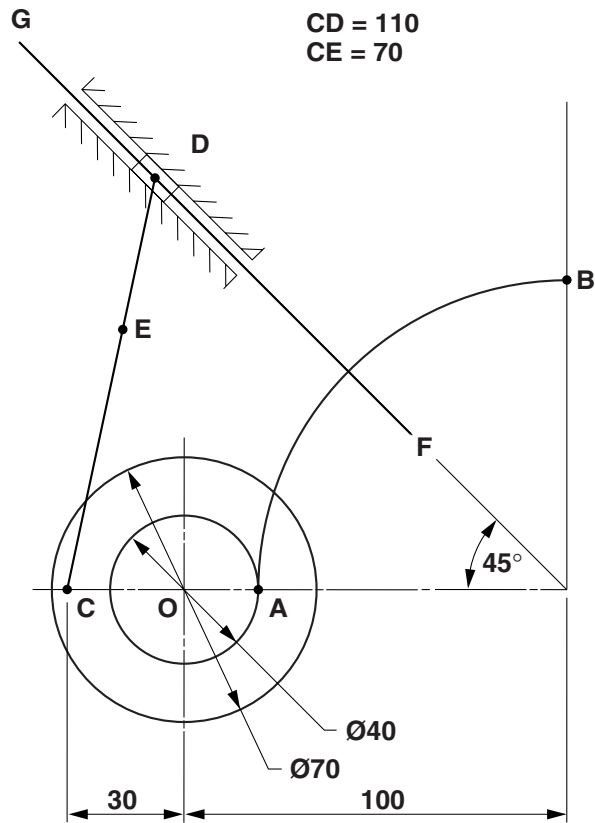

Fig. 7
- 7 Fig. 7 shows part of the mechanism of a wrapping machine. The flanged wheel centre **O** rolls clockwise without slipping along the arc **AB**. The arm **CD** is pin-jointed at **C** and **D**. The piston at **D** is constrained to a reciprocating movement along the line **FG**.